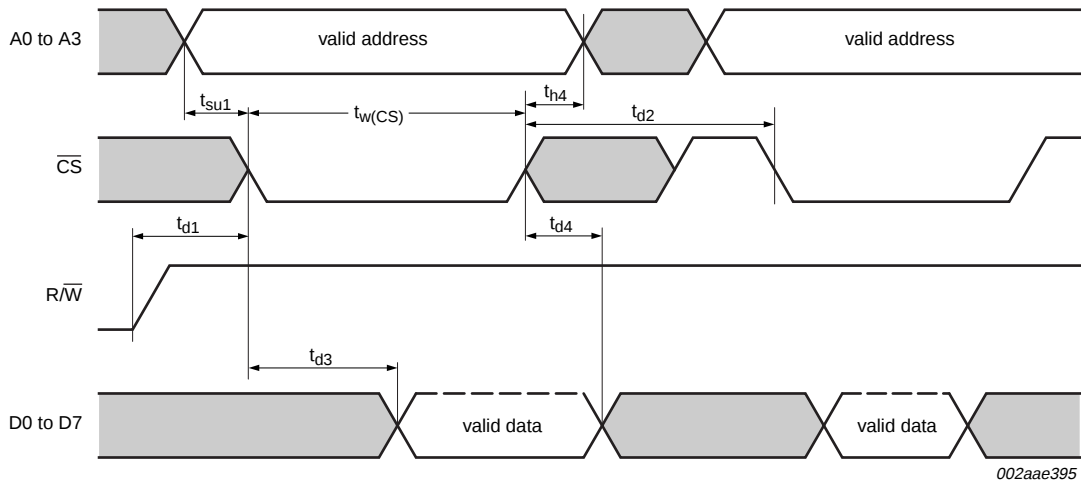

Fig 5. General read timing
- (2)  $\overline{CS}$  timing during a read cycle. See Figure 5.
| Modifications: <ul style="list-style-type: none"> <li>The format of this data sheet has been redesigned to comply with the new identity guidelines of NXP Semiconductors.</li> <li>Legal texts have been adapted to the new company name where appropriate.</li> <li>Data sheet descriptive title changed from "... Motorola <math>\mu</math>P interface" to "... 68 mode <math>\mu</math>P interface"</li> <li><a href="#">Section 2 "Features"</a>: added (new) 3rd bullet item and <a href="#">Footnote 1</a></li> <li><a href="#">Table 2 "Pin description"</a>:               <ul style="list-style-type: none"> <li>Description for <math>\overline{\text{RXRDYA}}</math>, <math>\overline{\text{RXRDYB}}</math>: deleted "This function is associated with PLCC44 and LQFP48 packages only."</li> <li>Description for <math>\overline{\text{TXRDYA}}</math>, <math>\overline{\text{TXRDYB}}</math>: deleted "This function is associated with PLCC44 and LQFP48 packages only."</li> </ul> </li> <li><a href="#">Table 22 "Limiting values"</a>:               <ul style="list-style-type: none"> <li>parameter description for symbol <math>V_n</math> changed from "voltage at any pin" to "voltage on any other pin"; added separate conditions for "at D7 to D0" and "at any input only pin"</li> <li>parameter description for symbol <math>T_{\text{amb}}</math> changed from "operating temperature" to "ambient temperature" (moved "operating" to Conditions column)</li> <li>symbol for "total power dissipation per package" changed from "<math>P_{\text{tot(pack)}}</math>" to "<math>P_{\text{tot/pack}}</math>"</li> </ul> </li> <li><a href="#">Table 23 "Static characteristics"</a>:               <ul style="list-style-type: none"> <li>descriptive line below table title changed from "<math>V_{\text{CC}} = 2.5 \text{ V}, 3.3 \text{ V}</math> or <math>5.0 \text{ V} \pm 10 \%</math>" to "tolerance of <math>V_{\text{CC}} \pm 10 \%</math>"</li> <li>symbol/parameter changed from "<math>V_{\text{IL(CK)}}</math>, LOW-level clock input voltage" to "<math>V_{\text{IL(clk)}}</math>, clock LOW-level input voltage"</li> <li>symbol/parameter changed from "<math>V_{\text{IH(CK)}}</math>, HIGH-level clock input voltage" to "<math>V_{\text{IH(clk)}}</math>, clock HIGH-level input voltage"</li> <li>symbol/parameter changed from "<math>I_{\text{CL}}</math>, clock leakage" to "<math>I_{\text{L(clk)}}</math>, clock leakage current"</li> </ul> </li> <li><a href="#">Table 24 "Dynamic characteristics"</a>:               <ul style="list-style-type: none"> <li>descriptive line below table title changed from "<math>V_{\text{CC}} = 2.5 \text{ V}, 3.3 \text{ V}</math> or <math>5.0 \text{ V} \pm 10 \%</math>" to "tolerance of <math>V_{\text{CC}} \pm 10 \%</math>"</li> <li>symbol "<math>t_{1w}</math>, <math>t_{2w}</math>" (clock cycle period) separated into 2 symbols "<math>t_{\text{WH}}</math>, pulse width HIGH" and "<math>t_{\text{WL}}</math>, pulse width LOW"</li> <li>symbol "<math>t_{w1}</math>, <math>\overline{\text{CS}}</math> strobe width" changed to "<math>t_{\text{w(CS)}}</math>, <math>\overline{\text{CS}}</math> pulse width"</li> <li><a href="#">Table note [3]</a>: changed denominator from "<math>t_{3w}</math>" to "<math>t_{\text{w(clk)}}</math>"</li> <li>added <a href="#">Table note [4]</a> and its reference at <math>t_{\text{(RESET)}}</math></li> </ul> </li> <li><a href="#">Figure 5 "General read timing"</a>: changed symbol from "<math>t_{w1}</math>" to "<math>t_{\text{w(CS)}}</math>"</li> <li><a href="#">Figure 6 "General write timing"</a>: changed symbol from "<math>t_{w1}</math>" to "<math>t_{\text{w(CS)}}</math>"</li> <li><a href="#">Figure 8 "External clock timing"</a>:               <ul style="list-style-type: none"> <li>symbol changed from "<math>t_{1w}</math>" to "<math>t_{\text{WH}}</math>"</li> <li>symbol changed from "<math>t_{2w}</math>" to "<math>t_{\text{WL}}</math>"</li> <li>symbol changed from "<math>t_{3w}</math>" to "<math>t_{\text{w(clk)}}</math>"</li> </ul> </li> <li>updated soldering information</li> </ul> |              |                    |               |              |